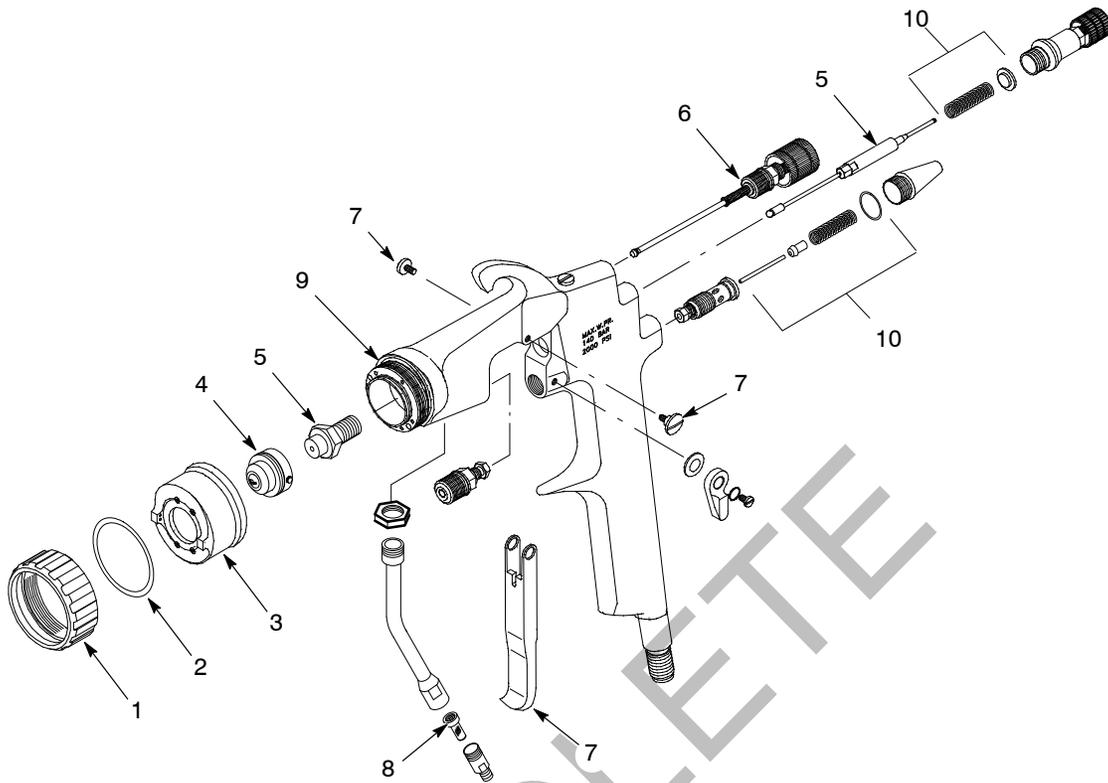

Figure 12 Spray Gun Parts
1. See Figure 12. Remove the cone-shaped plug from the rear of the spray gun with a metric hex wrench.
1. See Figure 12. Remove the adjuster assembly from the spray gun with a metric open-end wrench or adjustable wrench. This is a one-piece assembly and cannot be repaired.